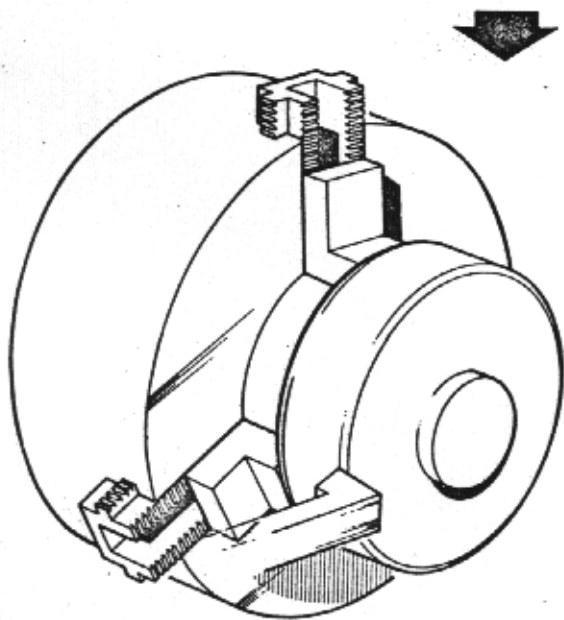

FIG. 3 PARTING LOADCELL BY LATHE
Parting Loadcell by Lathe Fig. 3
- Check top edge of both link arms (Ref. 10 Group D) are horizontal within $\frac{1}{16}$ " (2 mm) see Fig. 3, if not adjust loadcell packing— (Ref. 36 Group D).
- Check link shaft (Ref. 8 Group D) is clear of holes in hopper cradle (Ref. 1 Group D) either end See Fig. 3 (inspect from both inside and outside engine compartment). Correct by adjusting loadcell packing.